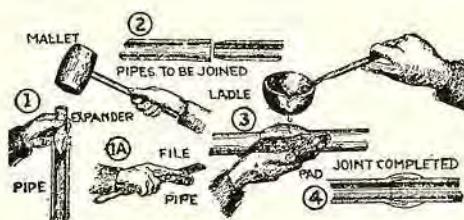

Fig. 17.
Joining two pieces of lead pipe is termed "wiping a joint." The pipe is first cleaned and prepared, by spreading one pipe with an expander, as at (1) (Fig. 17), and pointing the other ends, which are slipped together, shown at (2). The solder is then melted in a ladle, as shown in (3), and poured around the joint. A pad about 3" or 4" square and about $\frac{1}{4}$ " thick, of canvas or velvet, is held in the hand under the pipe as shown (3), the surface being greased with tallow. The bottom layer may be an asbestos sheet, so that the molten metal will not burn through.